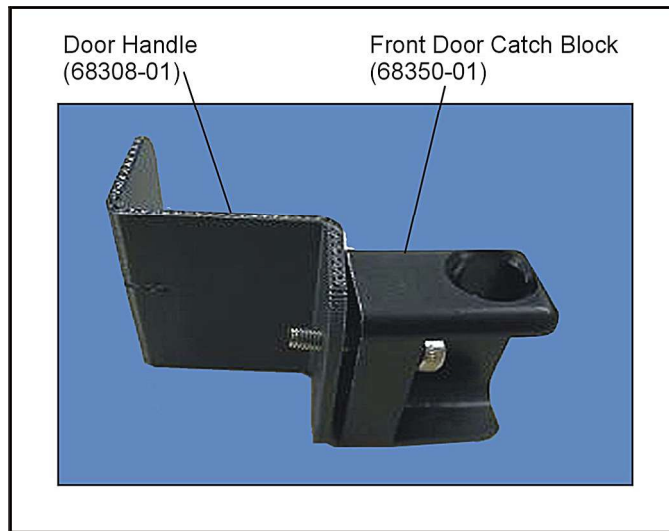

Figure 2-31: Door catch and handle lock assembly
24. Fit the modified front door catch block (68350-01) from the STARline UV Light Kit to the door handle (68308-01) with screws removed in step 23 to create the door catch and handle lock assembly (Figure 2-31).